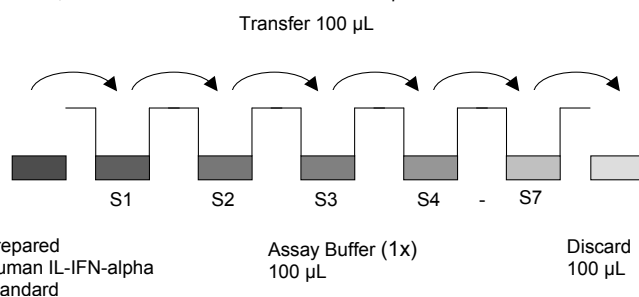

Fig. 1 Dilute standards - microwell plate
2. Add 100 μL of Assay Buffer in duplicate to standard wells. Pipette 100 μL of prepared standard (see “Preparation of standard” on page 2), (concentration = 1 ng/mL) in duplicate into well A1 and A2. Mix the contents of wells A1 and A2 by repeated aspiration and ejection (concentration of standard1, S1 = 500 pg/mL), and transfer 100 μL to wells B1 and B2, respectively (see Figure 1). Take care not to scratch the surface of the microwells. Continue this procedure 5 times, creating two serially diluted columns of human IFN- α standard dilutions ranging from 500.0 to 7.8 pg/mL. Discard 100 μL from the last microwells (G1, G2). Final volume in all wells is 100 μL .